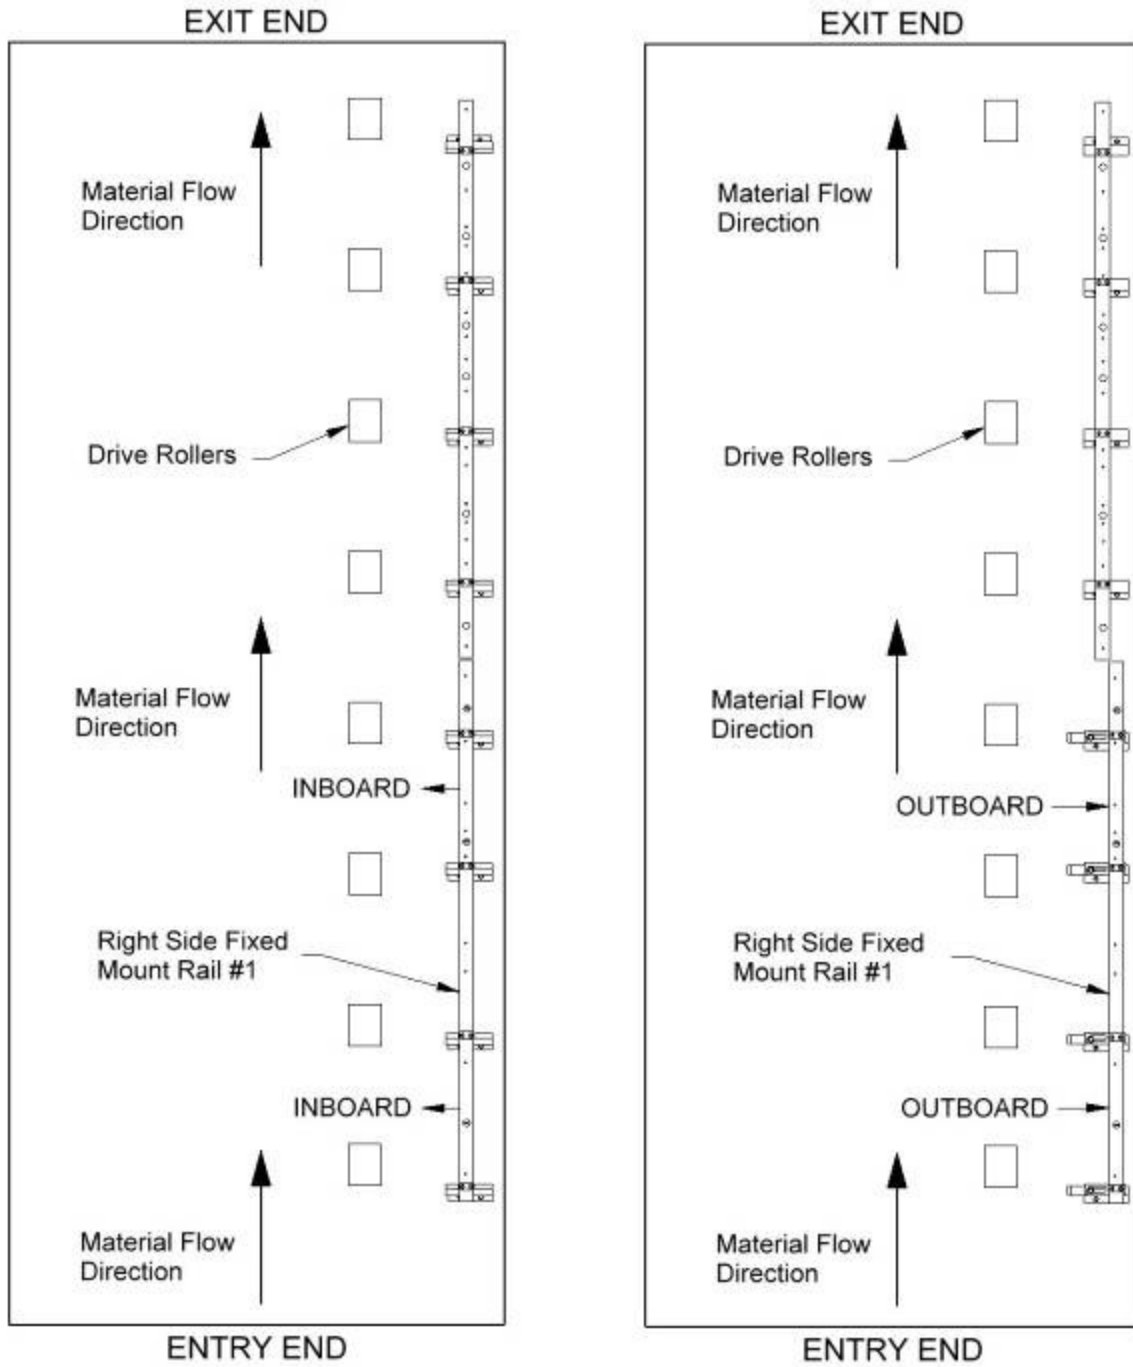

Figure 40: Inboard/Outboard Positions
3. Refer to the SSQ Slide Block chart (Figure 39) and find the profile you will be installing into the machine. It will tell you if the Right Side Fixed Mount Rail #1 needs to be in the Inboard position or Outboard position (Figure 40).